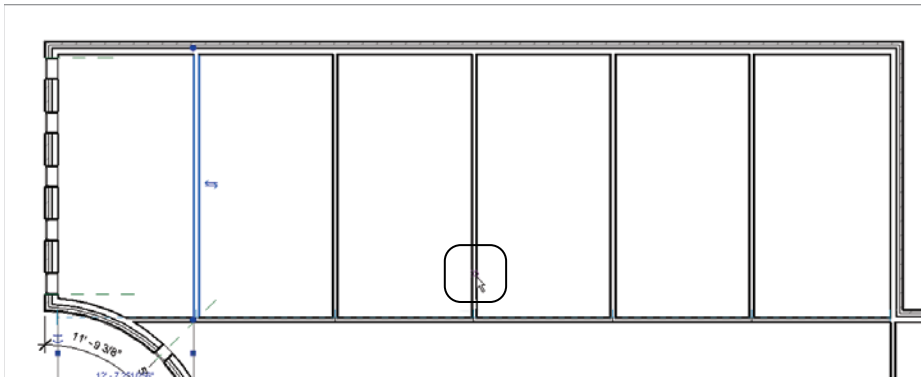

FIGURE 5.34 Unconstraining the walls
6. You will now see the EQ icon buried in the middle wall. Click this icon, and it will release the constraint set for the walls (see Figure 5.34). You are now free to move around the building. (Note that the EQ icon may be hiding behind a wall in the middle of the array. Zooming in will make the icon larger and easier to pick.)